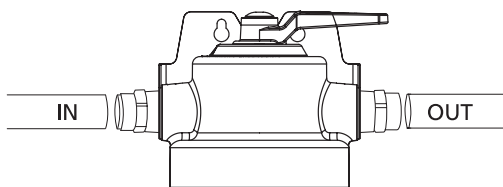

FIGURE 4
- 7** Insert pipe into filter head fitting. Ensure pipe is firmly seated to backstop. Connect pipe from water supply to "IN" port. (See Figure 4)